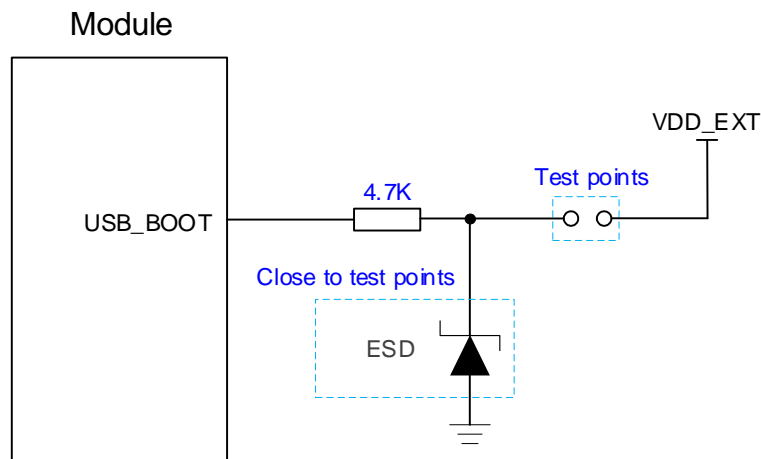

Figure 28: Reference Circuit of USB_BOOT Interface
2. When using MCU to control module to enter the emergency download mode, follow the above timing sequence. It is not recommended to pull up USB_BOOT to 1.8 V before powering up VBAT. Directly connect the test points as shown in **Figure 28** can manually force the module to enter download mode.